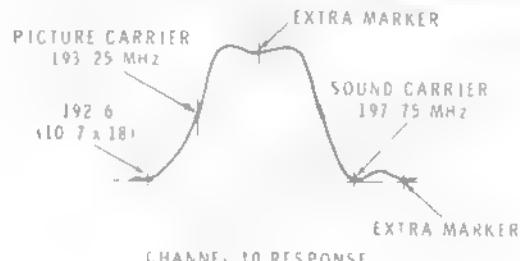

Figure 16D
**NOTE:** Spurious markers may appear on the trace along with the 193.25 MHz and 197.75 MHz markers. To verify the 193.25 MHz marker, turn off all markers and turn on only the 10.7 MHz marker switch. This produces a marker at 192.6 ( $10.7 \times 18 = 192.6$ ). Figure 16D shows the location of the correct markers and the correct response for channel 10.